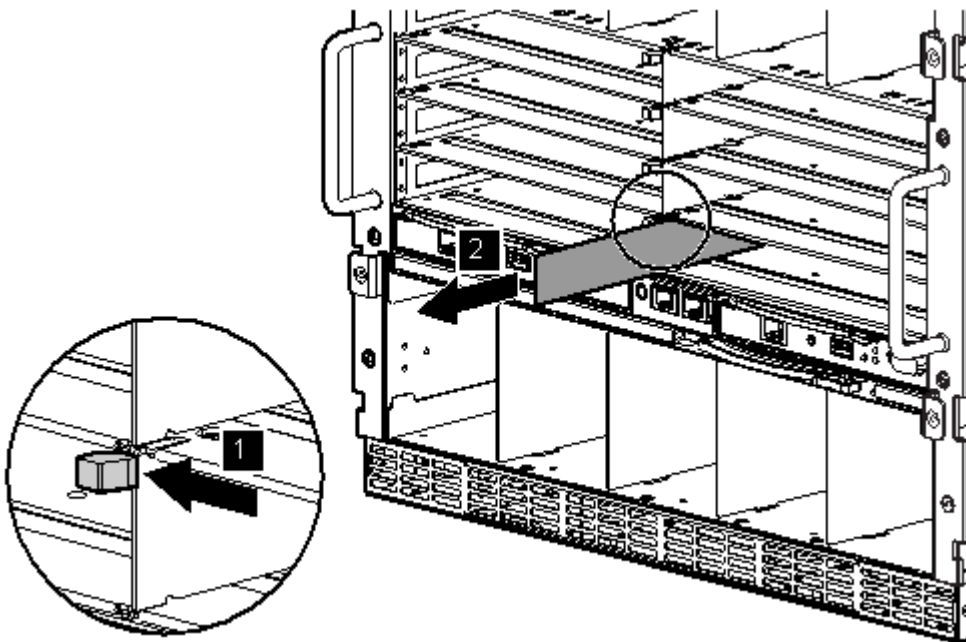

Figure 5 Removing a Divider from the HP BladeSystem Enclosure Interconnect Module Bay
2. To remove the divider, press the divider release button (see callout 1 in Figure 5) and slide the divider out of the interconnect module bay (see callout 2 in Figure 5).